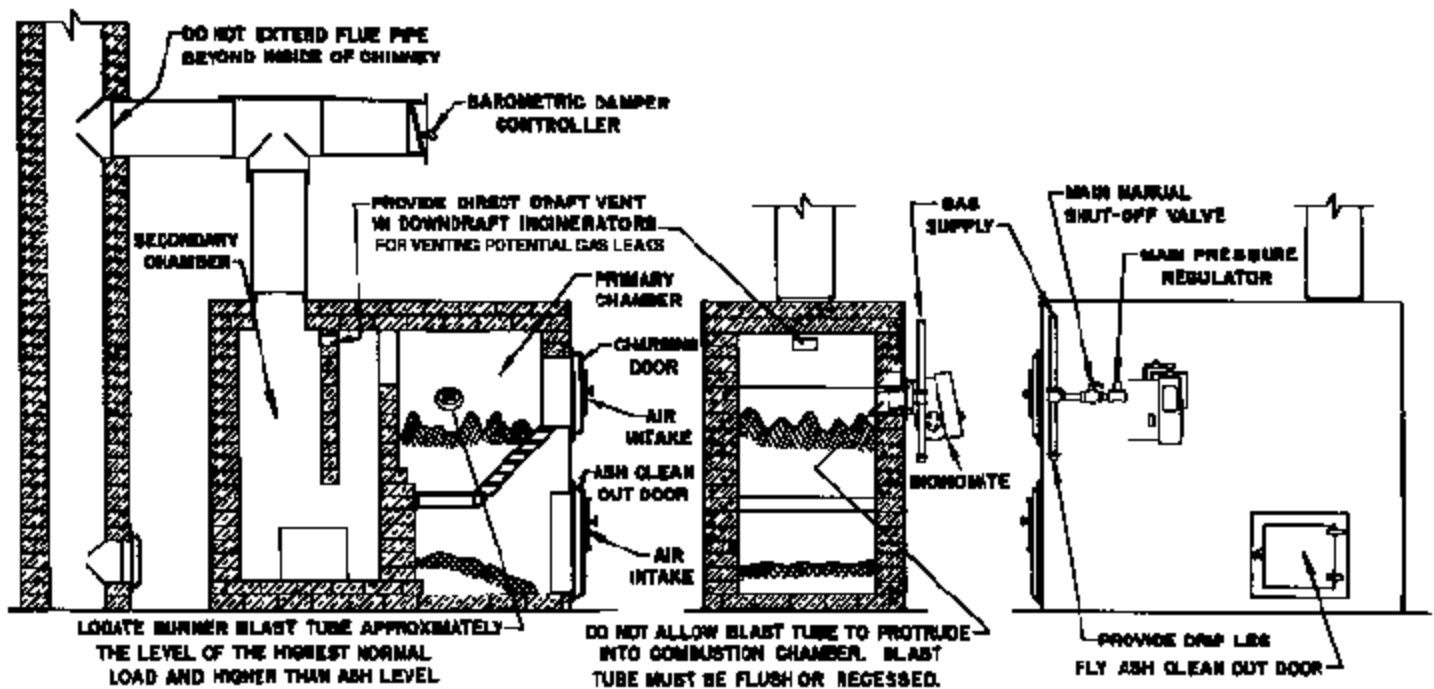

Figure 1 Typical Installation
□ To change the Mounting Flange to its alternate position, horizontal or 10° down firing, remove the four (4) screws that attach it to the burner, rotate the flange 180° and reinstall the screws.
**⚠ CAUTION:** If the incinerator is of the down draft design, make sure that a direct draft vent opening of approximately 10 square inches has been put through the top of the drop section(s) to provide for the venting of any gas leakage. See Figure 1.
☐ A suitable Main Gas Pressure Regulator should be installed as shown in Figures 1 or 3. Choose a regulator(s) to adjust the available gas pressure to the pressure shown in SPECIFICATIONS, page 2.